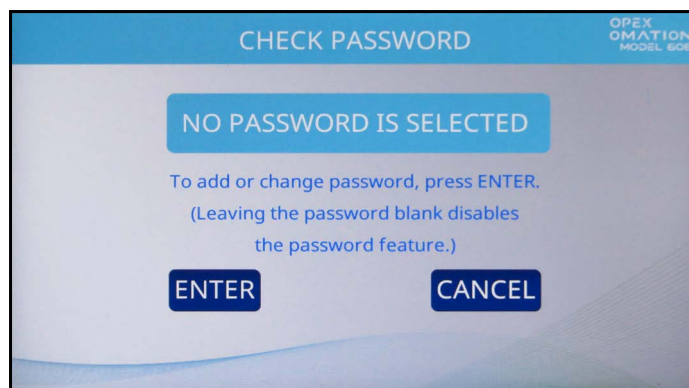

Figure 5-16: Check Password screen
2. The **CHECK PASSWORD** screen (Figure 5-16) will be displayed to remind the user that leaving the password blank will disable the password feature.